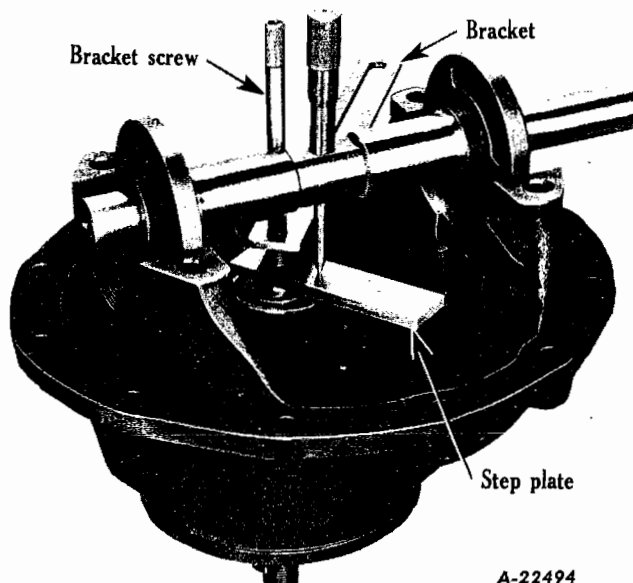

Fig. 5
The SE-1065 pinion setting gauge is a precision gauge designed for use in adjusting differentials to the proper cone setting of the ring gear and pinion. It is used only in adjustment of matched sets of gears. A step plate and bracket have been added to the set so that the gauge may be used on all hypoid differentials with satisfactory results. NOTE: Be sure to allow for thickness of the step plate .400" when making calculations (Fig. 5).
Fig. 5 shows SE-1065 tool equipment in position on hypoid differential case. Make certain that the bearing bores are clean and free of nicks or burns. The step plate must be placed on the pinion end so that the lugs in the step plate straddle the bearing staking indentations on the smaller axles.
2. Install step plate and bracket as shown in Fig. 5. CAUTION: Be sure lugs on step plate straddle the bearing staking indentations.
7. Comparison of corrected cone center (6) with actual measurement (4) indicates amount of change necessary for pinion position.